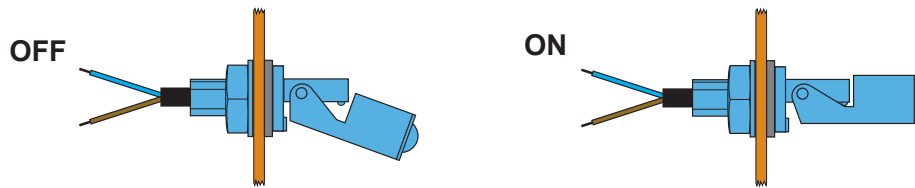

Figure 9. Mini float switch OFF and ON positions.
4. Place the mini float switch into position with the activation arm located in the downwards position as shown in Figure 9.